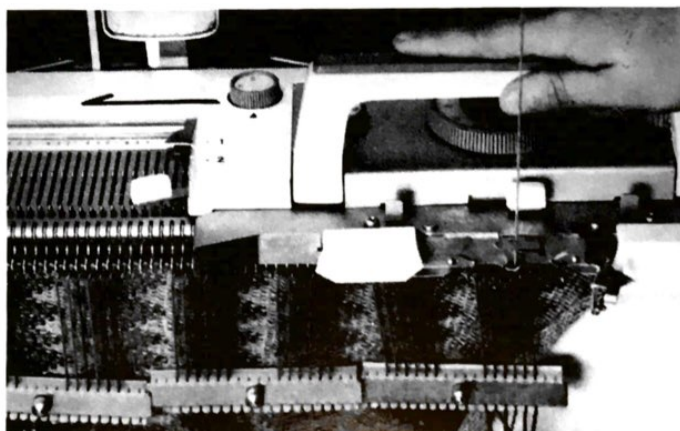

Fig. 54
- (i) Hook each strand onto its adjacent needle **on the right** and continue to knit until the 11th row. (Fig. 54)